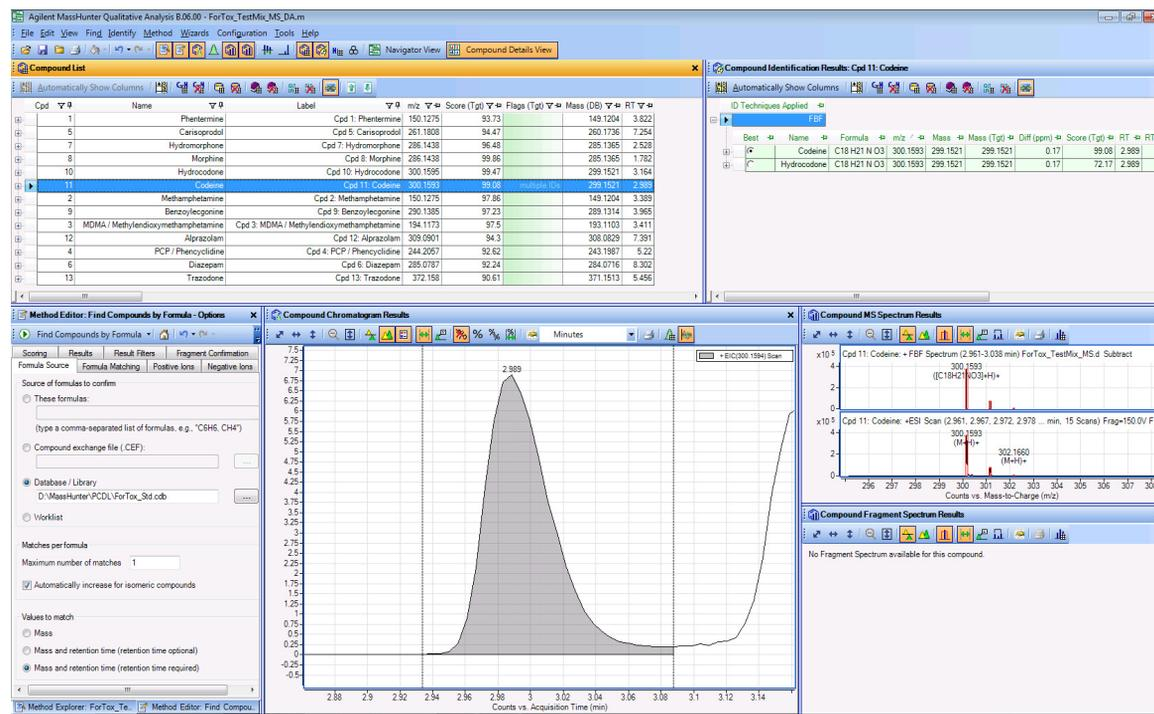

Figure 5 Compound Details view.
- Click **Compound Details View** to switch views. See Figure 5.